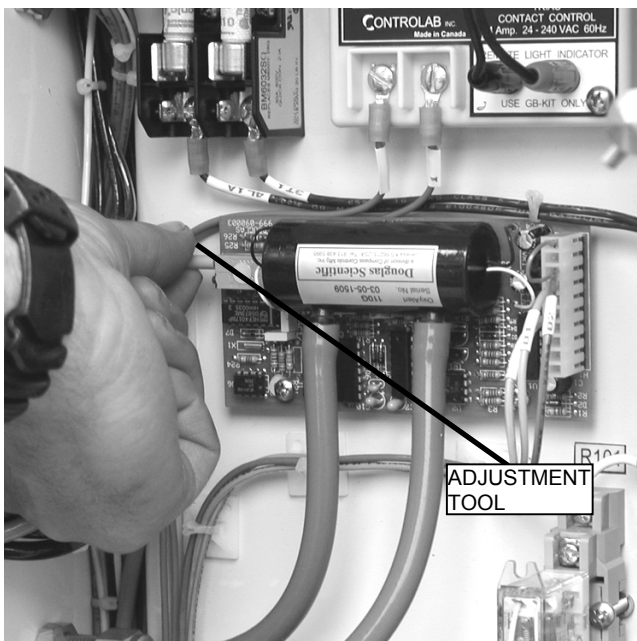

Figure 35. Adjusting the Offset Potentiometer.
- a. When checking the voltage as described in Paragraph 14(1.), place the potentiometer adjustment tool on the adjusting screw at the left end of the top potentiometer. Gently rotate it until it is felt to have engaged with the slot in the adjusting screw. Refer to Figure 35.